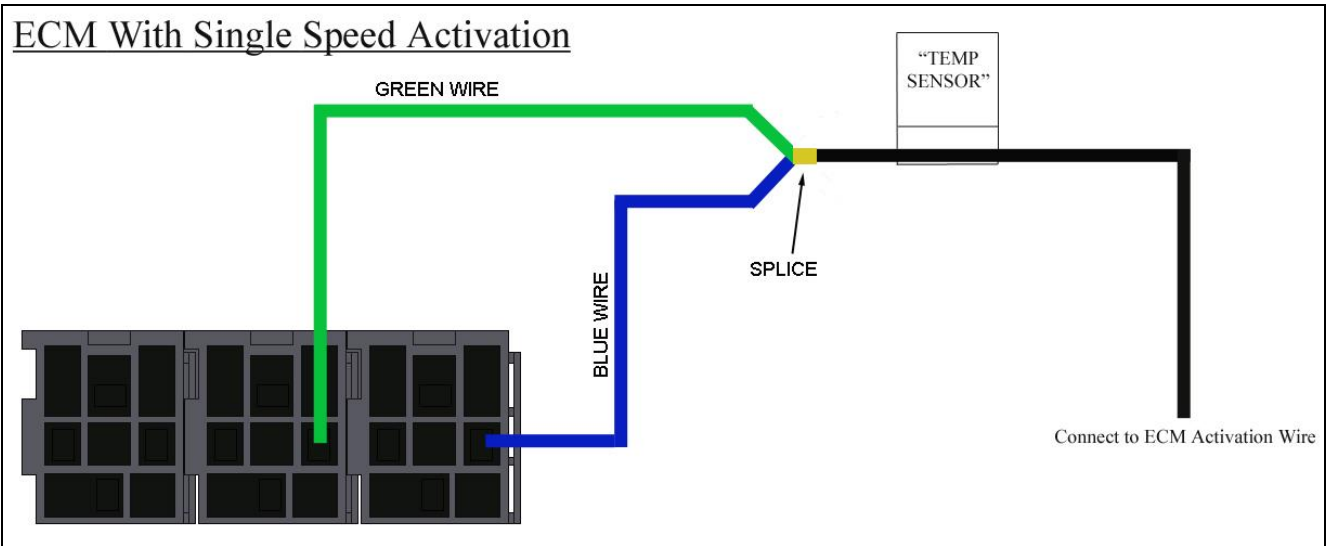

Figure 1
1. The wire printed “FAN ON SIGNAL-TEMP SWITCH TO RELAY” will go back to a splice at the relays with a green wire and a blue wire. If you only have a single activation wire from your ECM, this black wire will need to connect to this single ground activation wire coming from your ECM; see **Figure 1**.